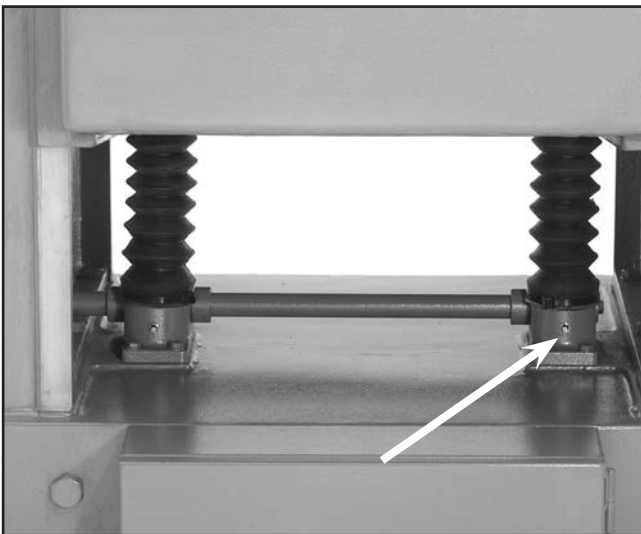

Figure 22. Table lifting gear grease fittings.
- 3. **Table Lifting Gears** — Once a week for heavy use; once a month for moderate use. See **Figure 22** for locations.